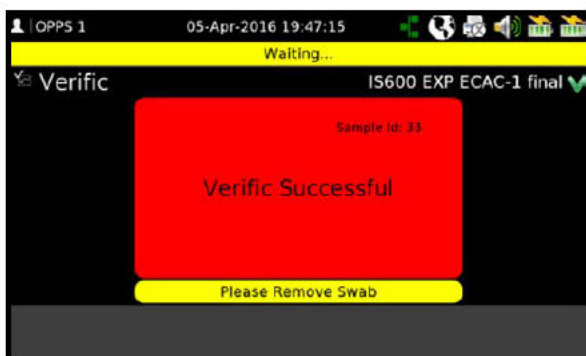

Figure 20a & 20b – Verific Successful remove swab, (1.) “Press To clear Verific Notification”.
- Remove the swab as indicated on the Verific Successful screen, (see Figure 20a);